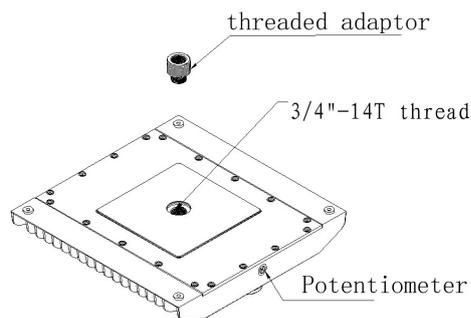

Fig. 5
- Remove the threaded adaptor from the back of fixture. See Fig. 5. Connect the wiring to line wires, black-black, white-white and green-green.